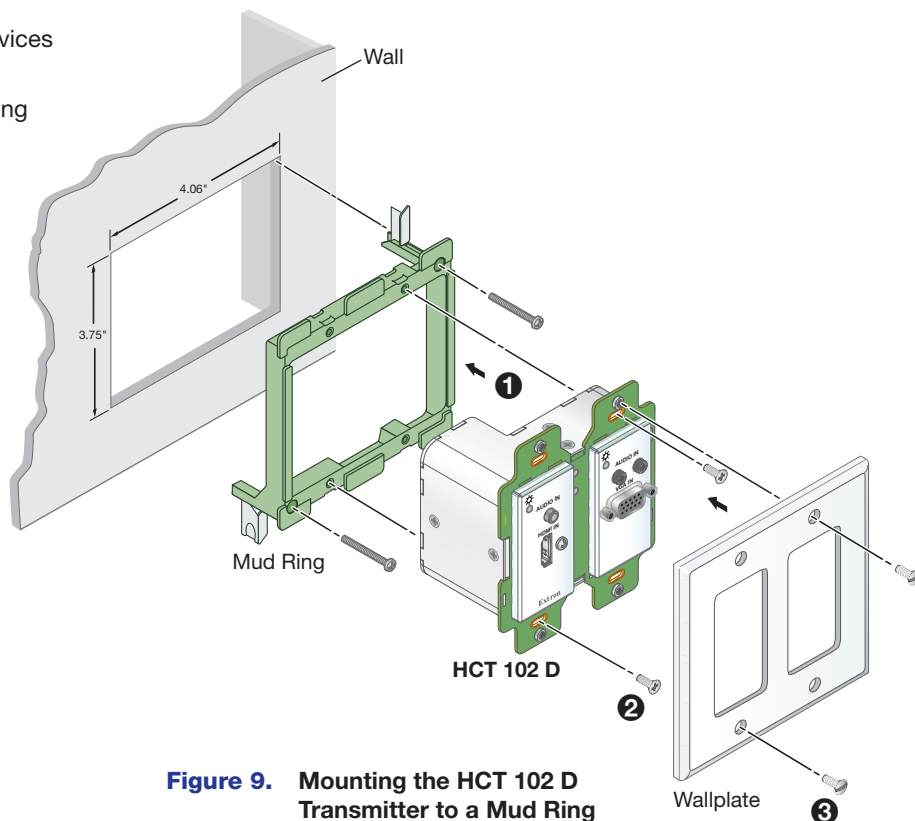

Figure 9. Mounting the HCT 102 D Transmitter to a Mud Ring
2. Insert the cabled transmitter into the mud ring or junction box within the wall or furniture, aligning the mounting holes in the transmitter with those in box or mud ring (see figures 9 and 10, ①).
3. Secure the transmitter to the junction box or mud ring as follows (see ②):
- b. Insert screws through the wallplate mounting holes (③) and lightly tighten the screws until snug. Do not over-tighten.